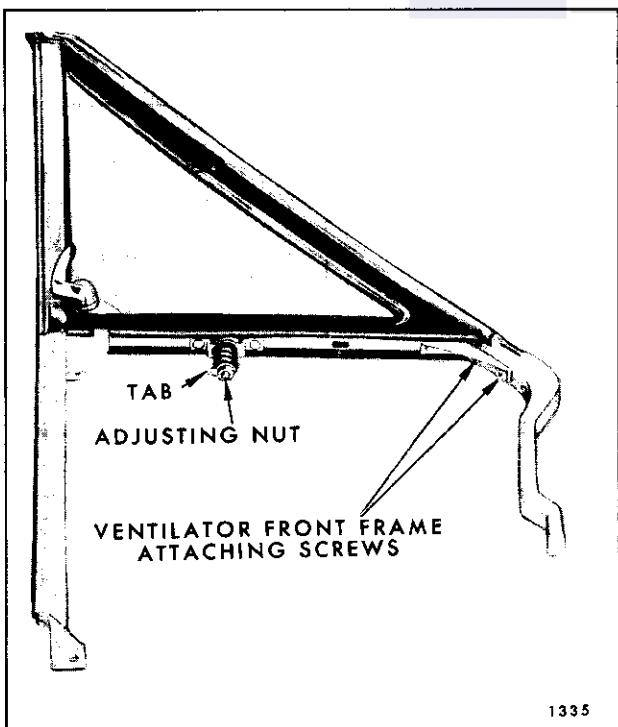

Fig. 6-66—Front Door Ventilator Assembly — "X & Z" Styles
3. The effort required to open or close the ventilator can be set by straightening retaining washer tab and tightening or loosening the adjusting nut. Tightening increases effort and loosening decreases effort. When desired adjustment has been obtained, bend down washer tab to lock nut in position (See Fig. 6-66).
3. Remove two attaching screws securing ventilator casting to frame and separate ventilator casting from frame so that the ventilator weatherstrips can be removed (Fig. 6-66).